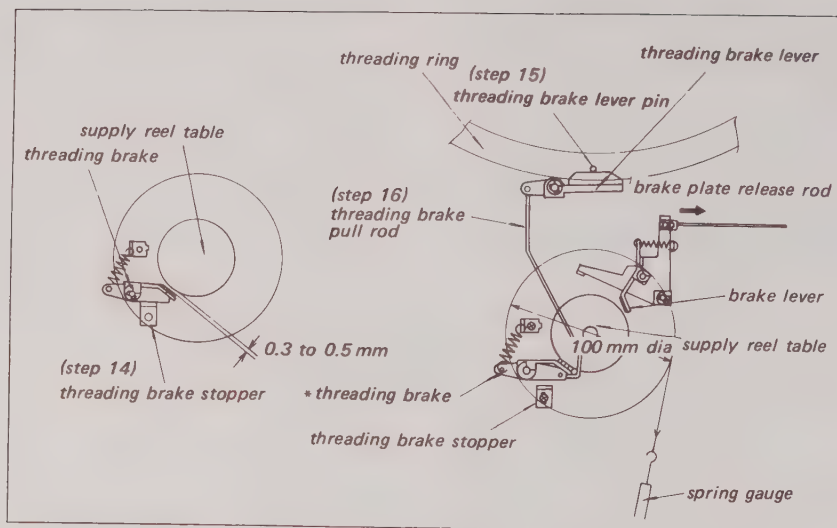

Fig. 5-44. Threading brake adjustments
14. Refer to Fig. 5-44. Check for 0.3 to 0.5 mm clearance between the Threading Brake and the Supply Reel Table. Adjust the Threading Brake Stopper if necessary.
15. Rotate the Threading Ring by hand until the pin beneath the ring (near the Threading Guide Roller in the fully threaded position) rides in the center of the cam on the Threading Brake Lever. See Fig. 5-44.